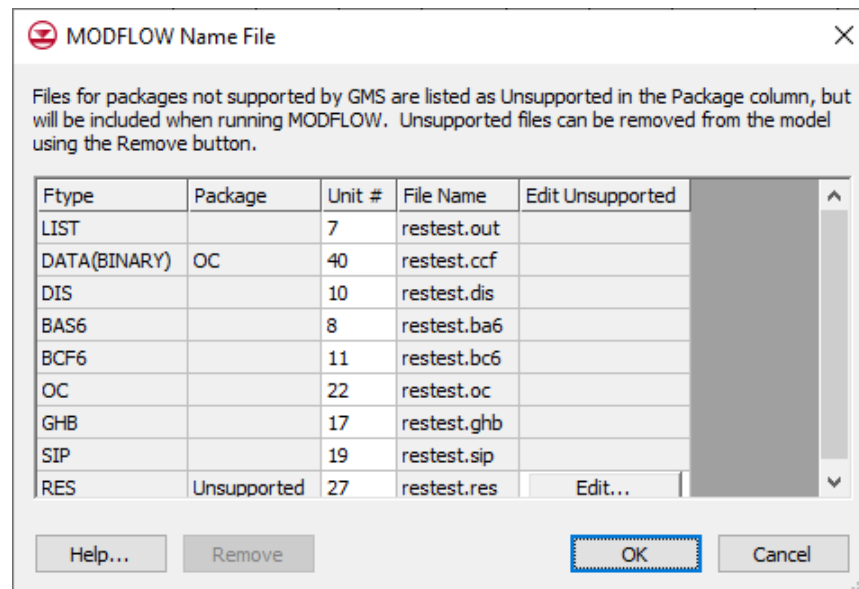

Figure 3 The MODFLOW Name File dialog
1. Select *MODFLOW* / **Name File...** to bring up the *MODFLOW Name File* dialog (Figure 3).